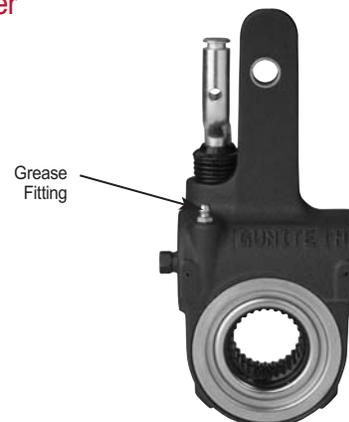

Figure 4 – Lubrication Points
1. A grease fitting is provided to allow lubrication during normal chassis servicing. (see Figure 4) With a conventional grease gun, lubricate until grease appears on the camshaft.